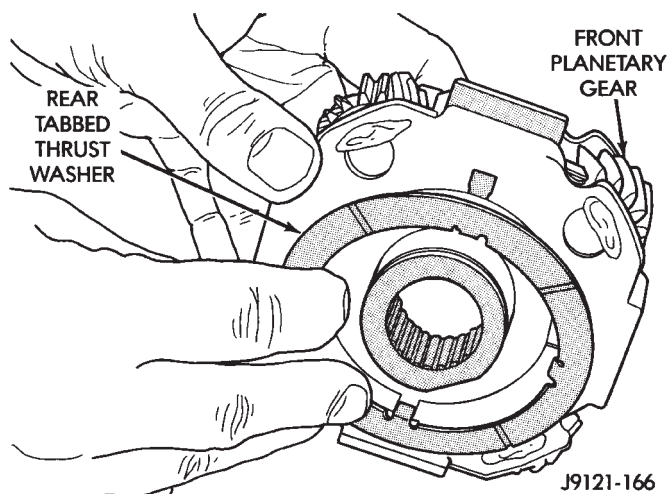

Fig. 79 Installing Rear Thrust Washer On Front Planetary Gear
(14) Install rear thrust washer on front planetary gear (Fig. 79). Use enough petroleum jelly to hold washer on gear and be sure washer tabs are all properly seated.